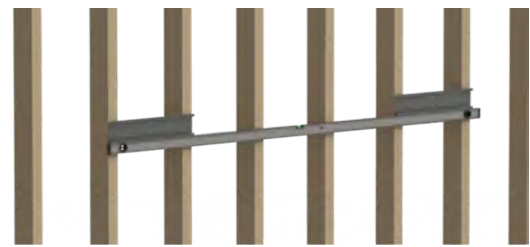

Figure 5. Wall mounts leveled and attached to one or more wall studs
2. Use a level to accurately position the wall mounts on the wall (see Figure 5), and make certain that both wall mounts are within 24 inches from either edge of the case. This will prevent the case from tilting to either side.
- Note:** These are heavy units. Wall mounts must be mounted to as many studs as possible (see Figure 5).